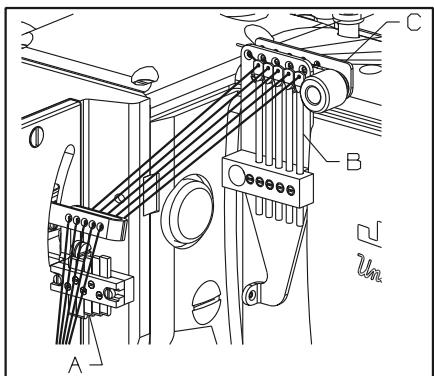

FIG. 32
Five needle thread strike-off pins (A, Fig. 32) are provided for independent needle thread control. Level the take-ups to the height of the thread in the needle lever eyelet at its lowest position. Raise the first take-up (nearest the operator) $1/8"$ (3.2mm), the second take-up $3/32"$ (2.4mm) and the third $1/16"$ (1.6mm). Further adjustment may be necessary to obtain proper needle loop size so skipped stitches may be avoided.
Set the five frame needle thread eyelets (B, Fig. 32) eye with the eyelets in holder (C). Adjust as necessary so the needle thread loops around the looper will remain firm and not seek random positions when the needle bar descends.